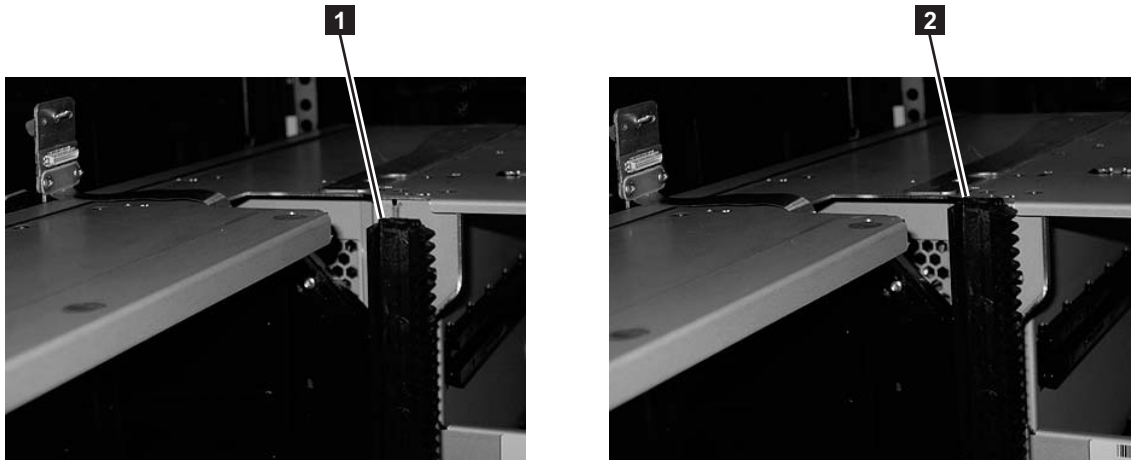

Figure 3-20. Gear racks positions (rear gear racks shown)
5. Ensure that the front and rear gear racks of both the control module and the expansion module are locked in the upper position (see **2** in Figure 3-20 on page 3-20).
1. **IMPORTANT:** Ensure that the front and rear gear racks are in the down (operating) position (see **1** in Figure 3-20 on page 3-20).